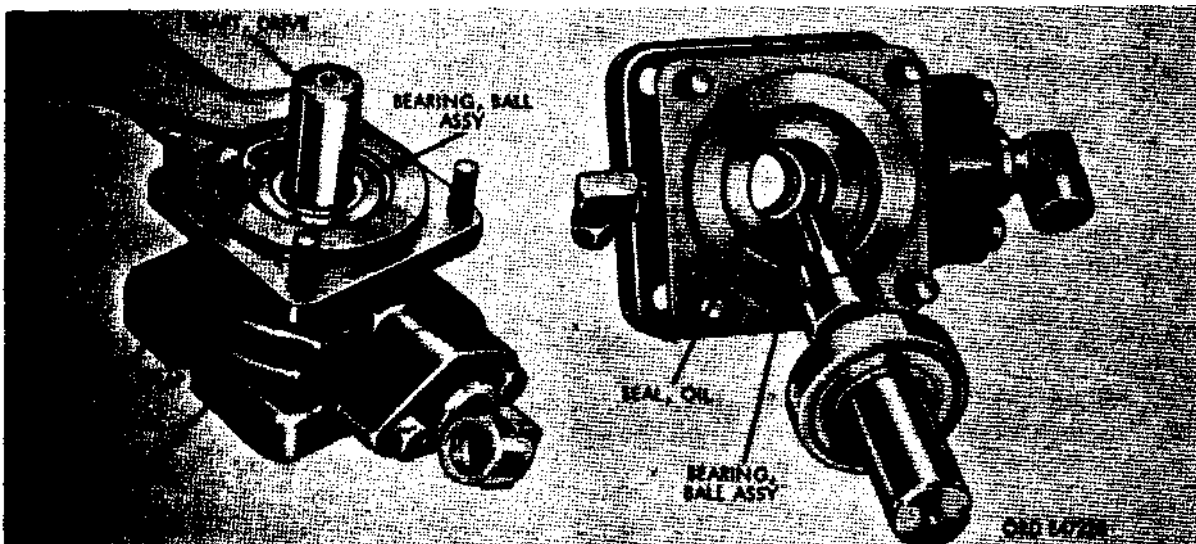

Figure 440. Removing drive shaft and bearing
- (2) Removal of drive shaft and ball bearings. To remove the drive shaft and ball bearing assemblies from the body, first remove the snap ring (fig. 440). Tap on exposed or splined end of drive shaft with soft hammer to remove drive shaft (M) and ball bearing assembly (N) from the body (fig. 440). Use a suitable flat surfaced tool end tap cut oil seal (L) by tapping from the inside. Check the relative position of this oil seal before removal so that it can be replaced by a new one at reassembly. The ball bearing assembly (R) at inner recess of body (K) may now be removed.